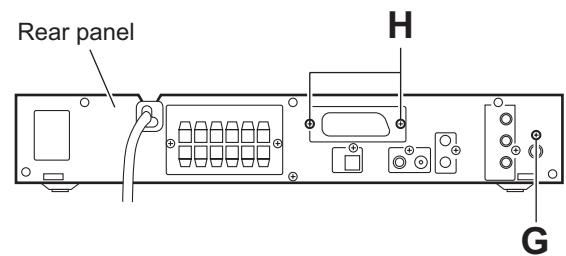

Fig.11
- (2) From the back side of the main body, remove the screw **G** attaching the tuner assembly to the rear panel. (See Fig.11.)
- (3) Take out the tuner assembly from the main body.
- (2) From the back side of the main body, remove the two screws **H** attaching the scart terminal board to the rear panel. (See Fig.11.)
- (3) Take out the scart terminal board from the main body.